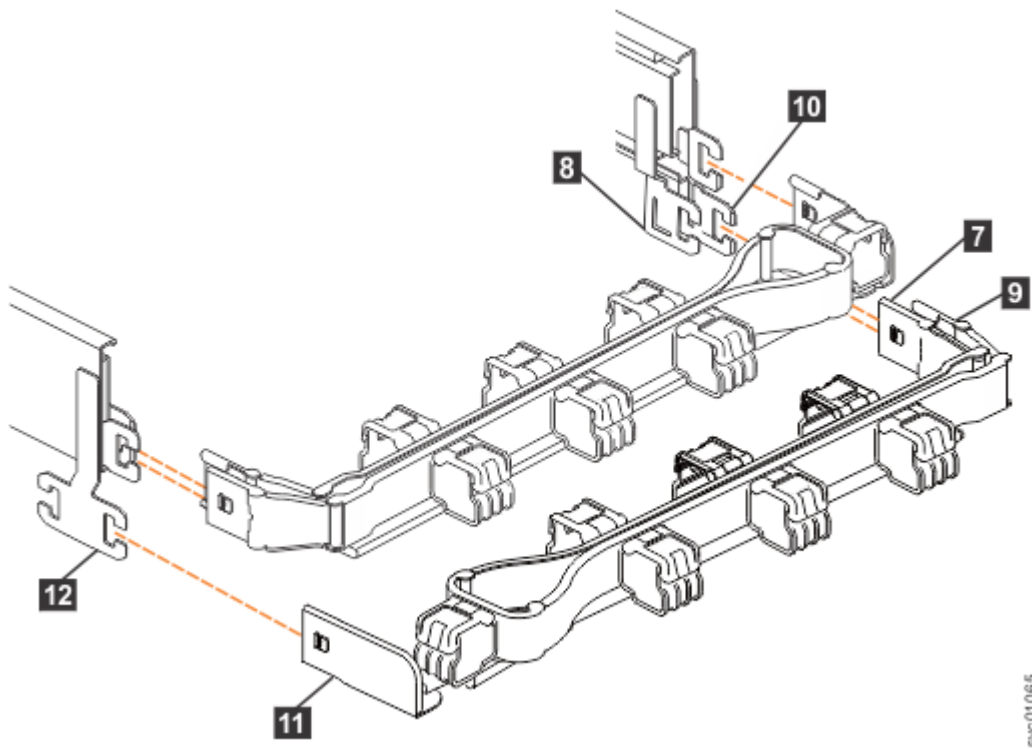

Figure 66. Comparing the location of the components of the CMA assemblies
Note: The procedure for attaching the lower CMA assembly is the same as the procedure to attach the upper CMA assembly. However, the connector locations are reversed. For comparison, Figure 66 on page 60 shows the upper and lower CMA assemblies as they are aligned to the support rails. The support rail connector of the upper CMA attaches to the right rail. The support rail connector of the lower CMA (11) attaches to the left rail.
5. Install the inner connector of the lower CMA assembly (7) to the inner member of the right support rail (8), as shown in Figure 66 on page 60).
6. Install the outer connector of the lower CMA assembly (9) to the outer member of the right support rail (10), as shown in Figure 66 on page 60.
7. Attach the support rail connector on the lower CMA assembly (11) to the connector on the left support rail (12), as shown in Figure 66 on page 60.